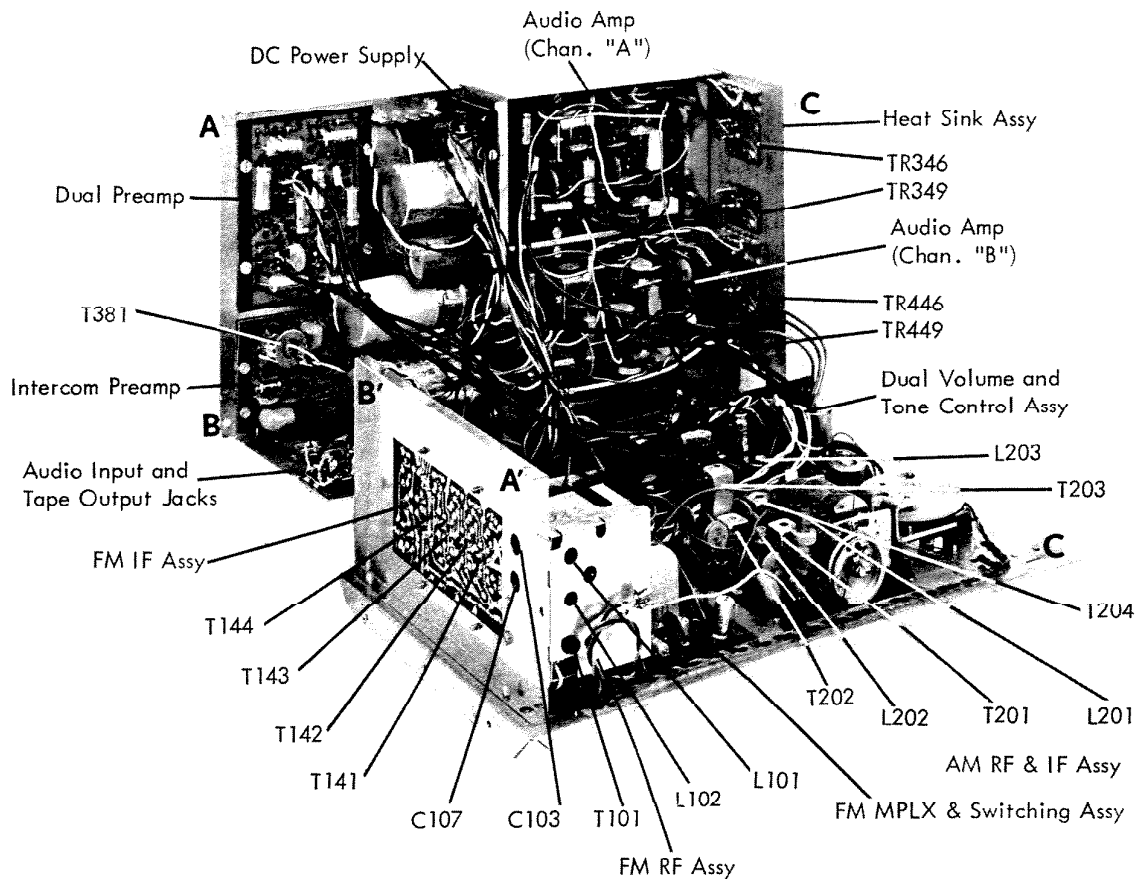

Fig. 1.36 — RECEIVER CHASSIS OPEN FOR SERVICING AND/OR ALIGNMENT
(6.8) For accessibility to all PC boards and their components, lay front chassis face down as shown in Fig. 1.36.
7. Replacement of individual PC boards: (Fig. 1.36)